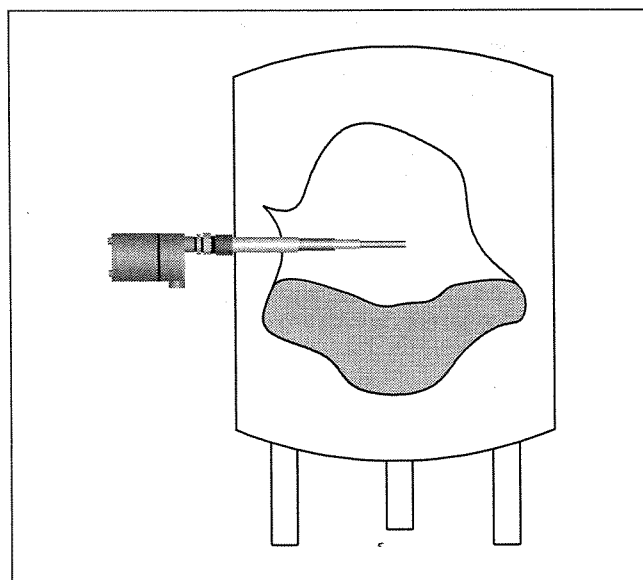

FIGURE 5-6
A. For either HLFS or LLFS, begin with the sensing element in air. See Figure 5-6.